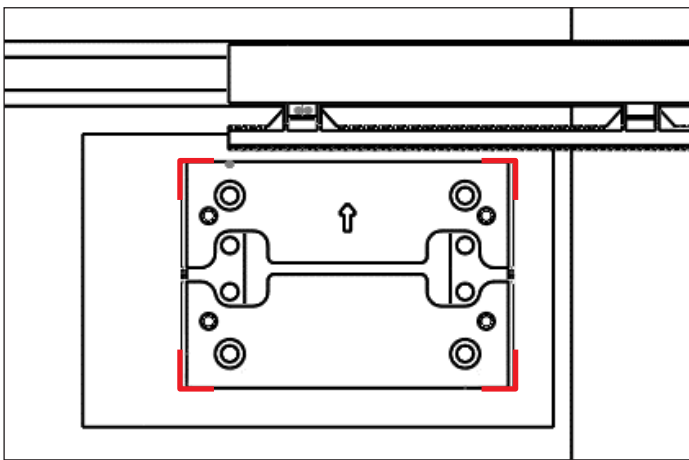

Fig 13
- Mark the (4) positions for your anchor bolts ready for drilling (refer to Fig 13).